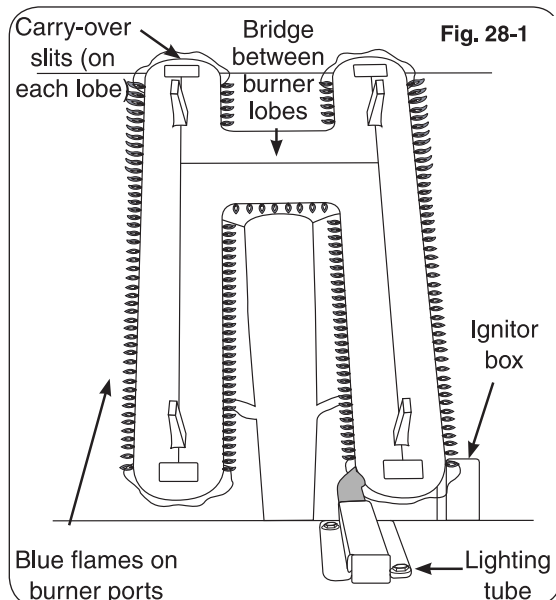

Fig. 28-1
Flames from a properly adjusted main burner with no wind or breeze present will appear fairly steady, consistent, and almost entirely blue. The extreme tips of the flames may be light yellow. If the tip of a flame were to turn orange, it should only do so briefly and then become blue or light yellow again. The flames will appear to burn while touching the burner ports (see Figure 28-1).
5. Repeat steps 1-4 until the flames appear to touch the burner ports, burning fairly steadily and almost entirely blue with occasional light-yellow tips (see Fig. 28-1).